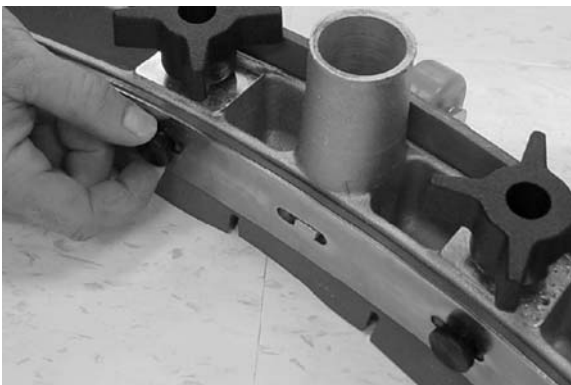

FIG. 46
2. Remove the six thumbscrews holding the retainer and squeegee blade to the squeegee frame. Rotate the squeegee blade end for end to allow a new edge to face the front of the machine. Make sure the notched edge of the blade is facing downward (Figure 46).